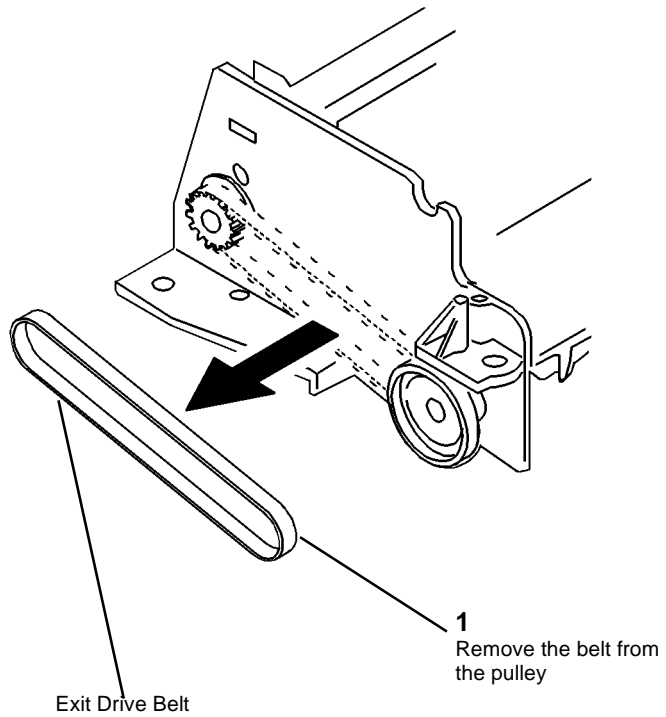

Figure 4 Removing the Exit Drive Belt
4. (Figure 4): Remove the Exit Drive Belt.